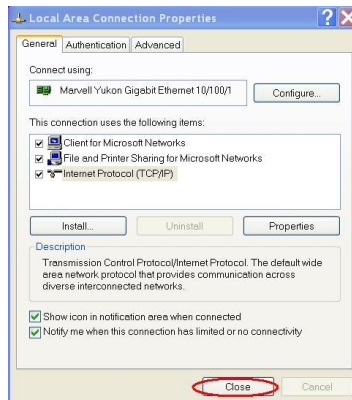

Figure A-7
**Step 6:** Choose Close to finish the modification. See Figure A-7.